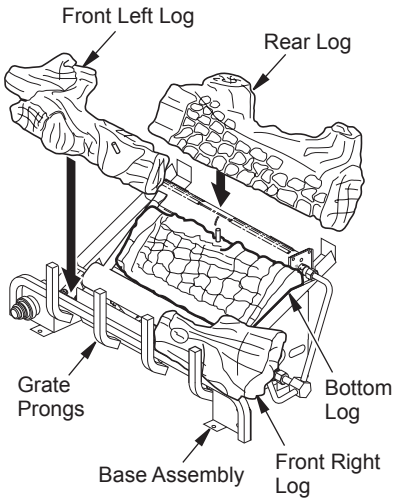

Figure 25 - Installing VUL Model Log Sets
1. Place bottom log in center of the base assembly as shown in Figure 25, page 19.
2. Rest rear log in back corner sections of base assembly as shown in Figure 25, page 19. Make sure log is completely vertical and not leaning in toward burner where the flame will touch the log.
3. Position front right log against right side of grate prongs (see Figure 25, page 19).
4. Position front left log against left side of grate prongs (see Figure 25, page 19).